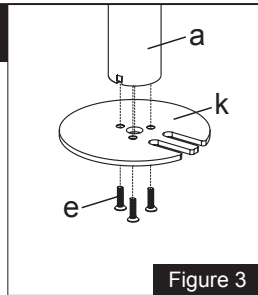

Figure 3
1. Install the Grommet Base Plate(k) to the Pole(a) using 3pcs M5x14 Bolts(e), and tighten using the Allen Key(m), see Figure 3.